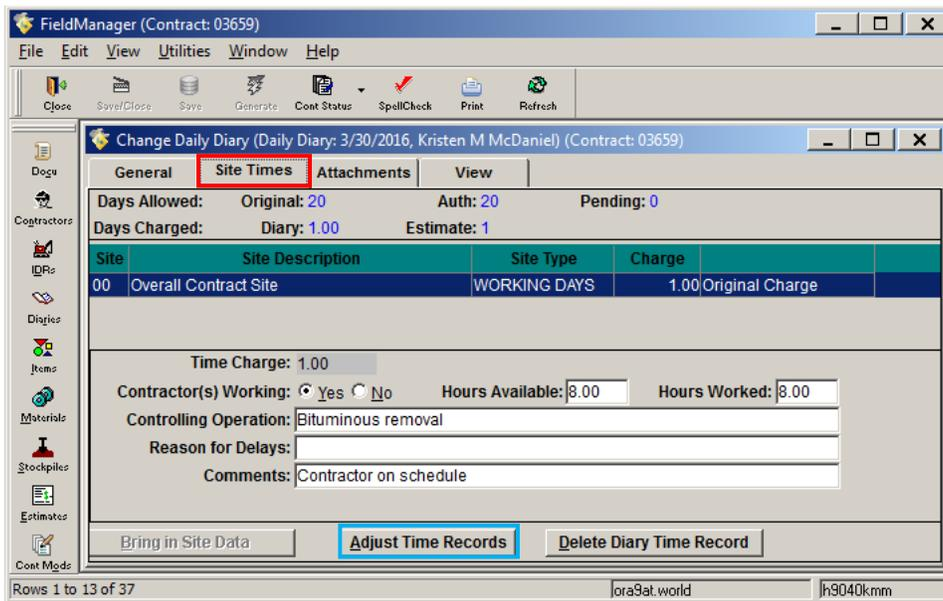
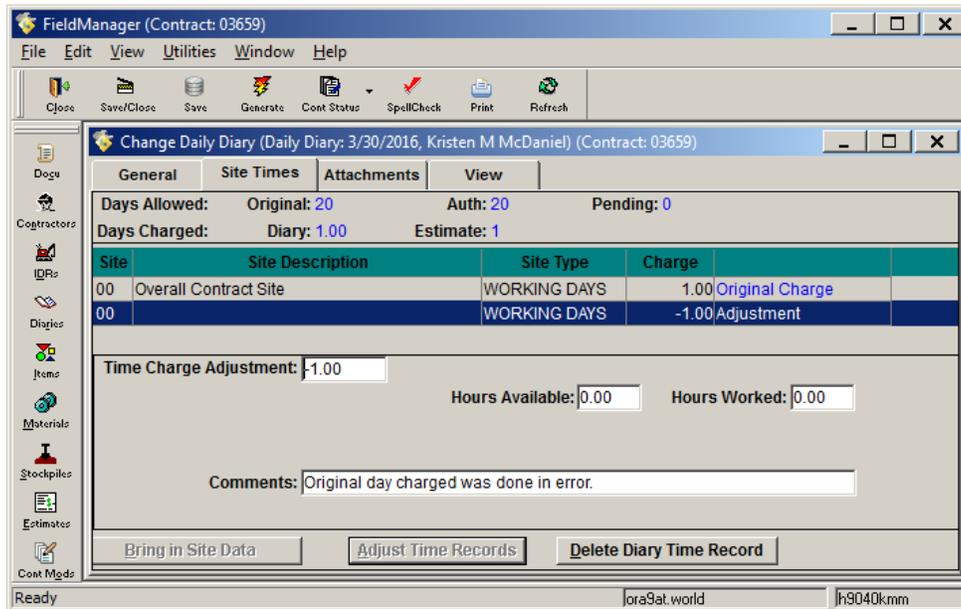

Figure 8-11. Change Daily Diary Tab Window – Site Times Tab – Adjusting a Time Record
Figure 8-12. Change Daily Diary Tab Window – Site Times Tab – Time Adjustment
1. Open the generated Daily Diary and click the **Site Times** tab (Figure 8-11).
2. Click the **Adjust Time Records** button (see blue box in Figure 8-11). This will open a new record for time charge adjustment information (Figure 8-12).
- Update the site record accordingly. As shown in Figure 8-12, to decrease the amount of time charged enter -1.00 in the **Time Charge Adjustment** field. To increase the time charged, enter 1.00 in the *Time Charge Adjustment* field.